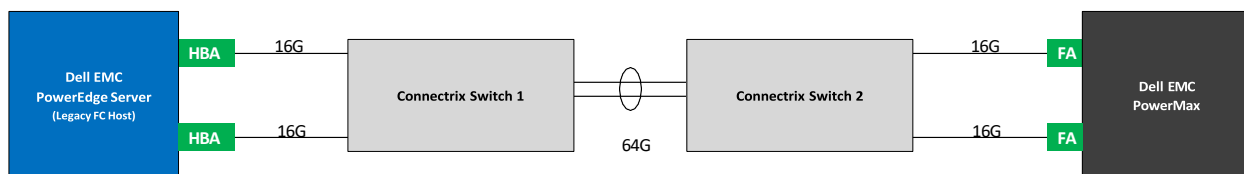

Figure 3
Figure 3 displays our starting topology. It is a traditional Fibre Channel SAN, where we have a Dell server with a Fibre Channel Host Bus Adapter (HBA) port that is attached to a two-switch Connectrix 32G Fibre Channel SAN. The HBA port is running 16Gb/s. The Connectrix SAN has two 32Gb/s aggregate ISL links between them. There is a Dell PowerMax with a Fibre Adapter (FA) front end port running at 16Gb/s.